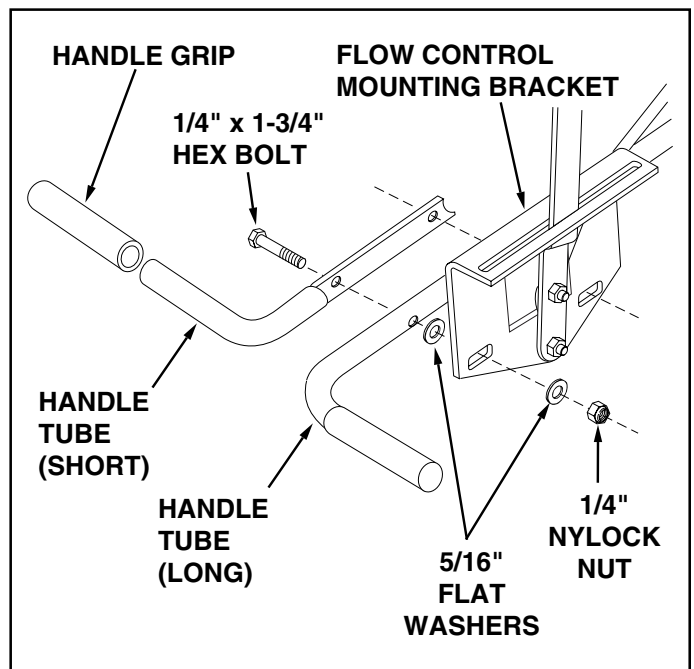

FIGURE 11
20. Assemble both the flow control mounting bracket and the short handle tube to the long handle tube. Use two 1/4" x 1-3/4" hex bolts, four 5/16" flat washers and two 1/4" nylock nuts as shown in figure 11. **Do not tighten at this time.**
21. Place a handle grip on each handle. See figure 11.